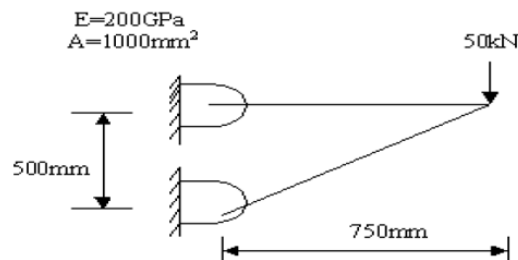

Figure 1
- (b) Determine the stiffness matrix, nodal displacements and stresses in the truss structure shown in Figure 1 [7M]